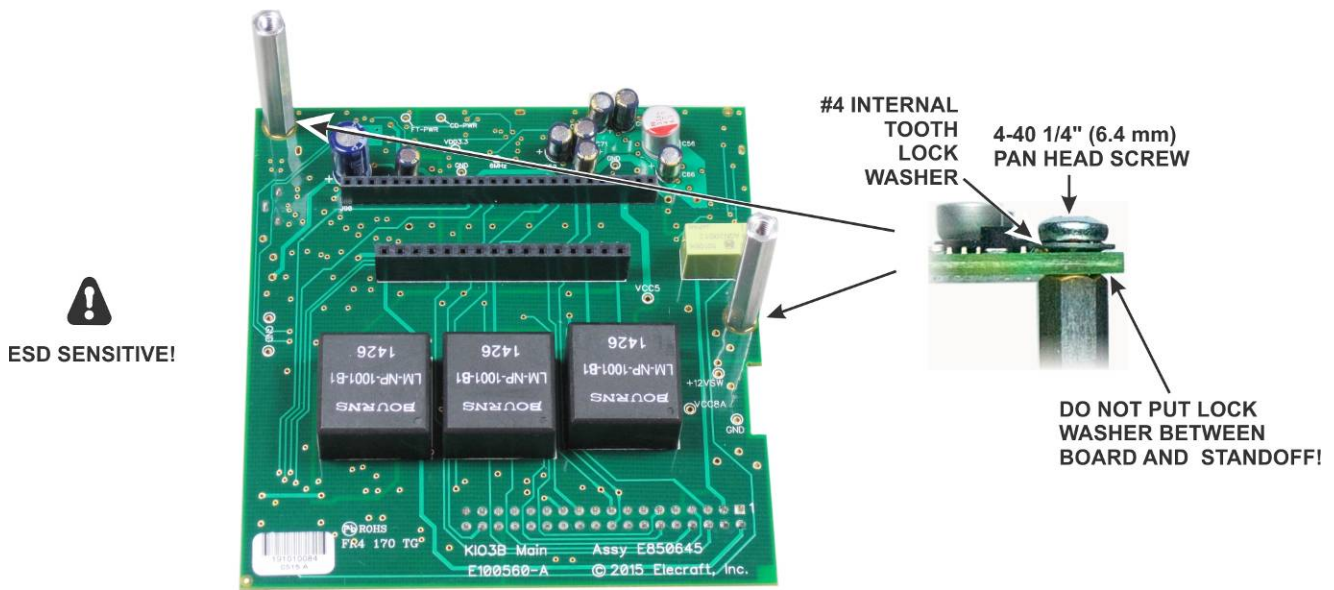

Figure 56. Mounting Standoffs on the KIO3B Main Board.
□ Mount two 1-1/4" (31.8 mm) standoffs in the two holes on the KIO3B board as shown in Figure 56 using a zinc 4-40 1/4" (6.4 mm) screw and internal tooth lock washer at each standoff. One is in the corner and the other is about half way down the opposite side of the board. ***Do not put lock washers between the standoffs and the board.***